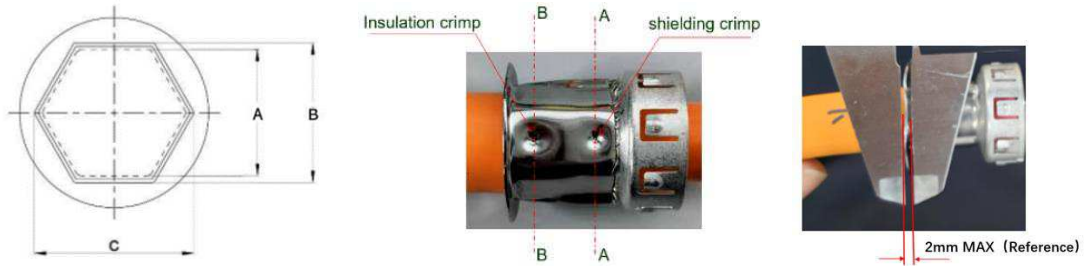
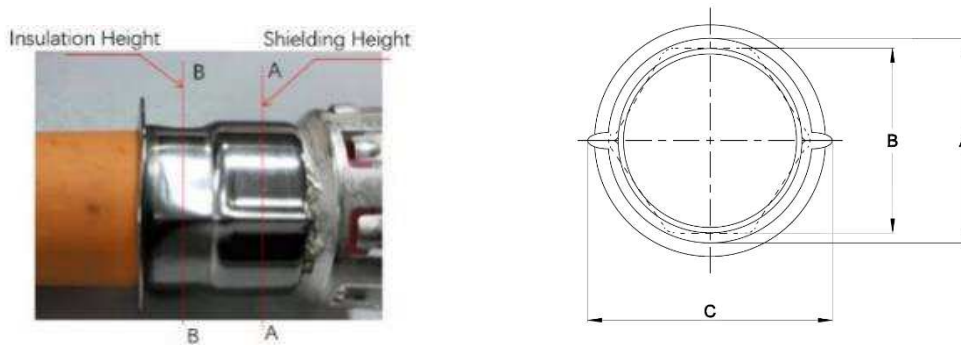

Figure 12: shielding crimp Height and Width (50mm² & 70mm²)
Figure 13: round crimp for shielding and hex crimp for insulation crimp (95mm²)
- After shielding crimp, flange deformation should not exceed 2mm (50/70/95mm² all refer to Fig 12)
- 压接后，法兰盘变形不能超过2mm（50/70/95mm²都参照图12）
Table 13: crimping height of shielding (base on figure 12 & figure 13)